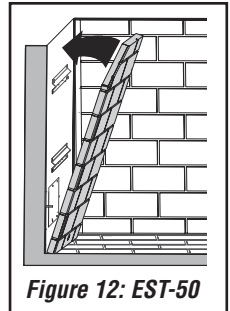

Figure 12: EST-50
- 7.1. Refer to **Figure 12, at right**. Insert the **LOWER edge** first; then push the panel up against the firebox wall.